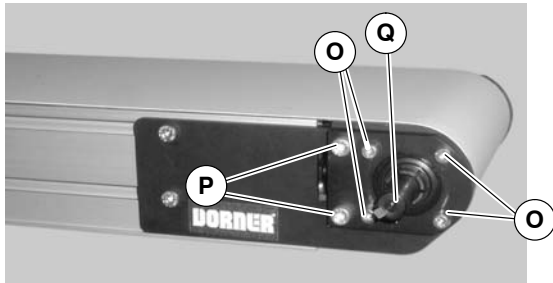

Figure 3
2. Locate drive output shaft (Q of Figure 3). Remove two (2) M8 screws (P) and four (4) M6 screws (O) and discard.